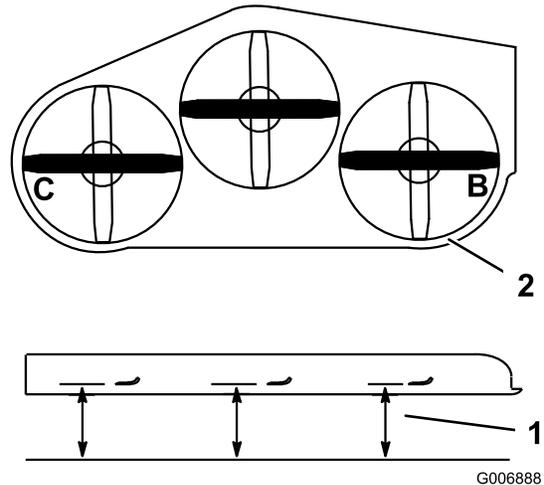

Figure 94
4. Measure at the **B** and **C** locations from a level surface to the cutting edge of blade tips (Figure 94).